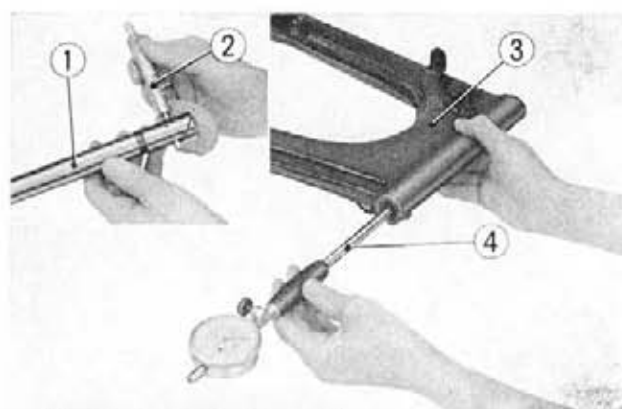

Fig. 12-9 ① Center collar
② Rear fork pivot bolt
3. Measure the bores of the rear fork pivot bushing with an inner dial gauge and the outside diameter of the center collar with micrometer, and if they are not within the serviceable limit shown below, they should be replaced. (Fig. 12-9)